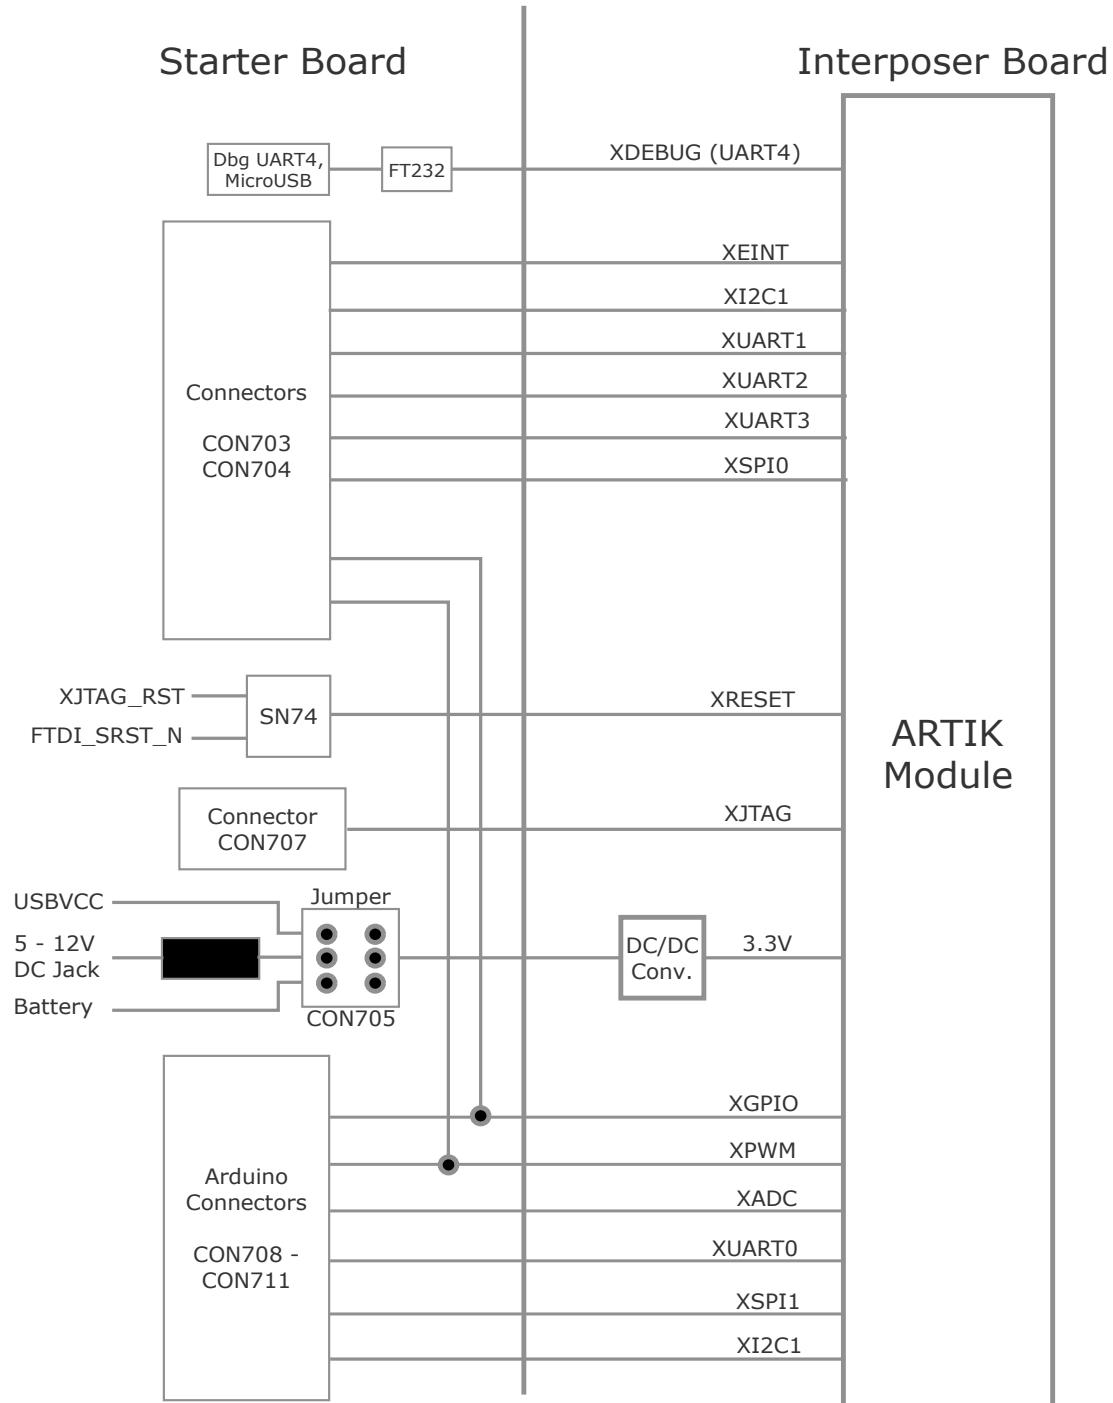

Figure 2. ARTIK 055s Development Platform System Block Diagram
*Figure 2* shows a system block diagram of the two boards in the ARTIK 055s development kit and the relative location of each interface.